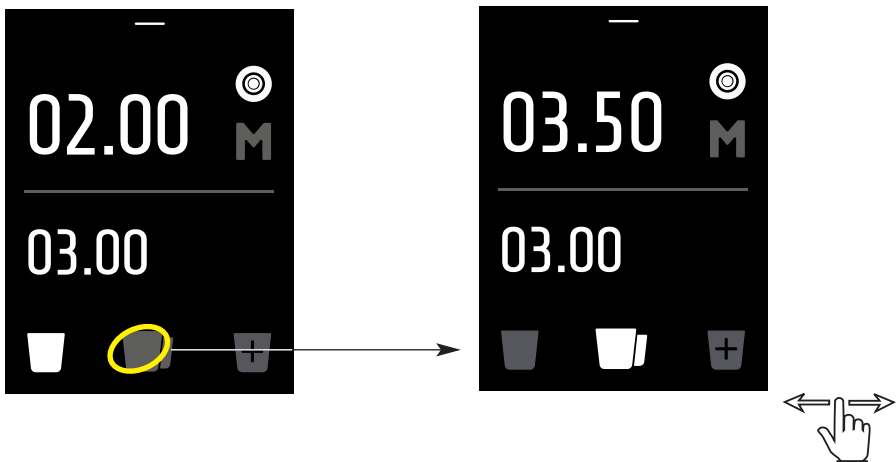

Fig. 5
- 3 Enter the page of the desired shot (single, double or extra) by pressing the page icon (see Fig. 5) **or by sliding your finger on the display to change the page.**